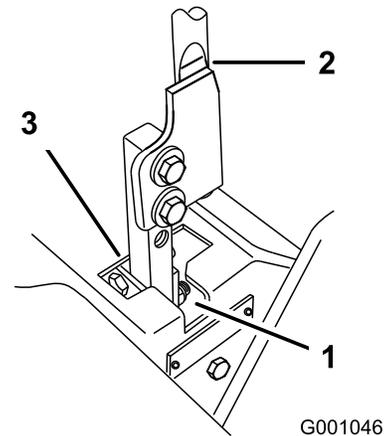

Figure 95
5. Move the lever to the neutral position but not locked (Figure 95).
6. Pull the lever back until the clevis pin (on arm below pivot shaft) contacts the end of the slot (just beginning to put pressure on the spring) as shown in Figure 95.
7. Check where the control lever is relative to notch in console (Figure 95).